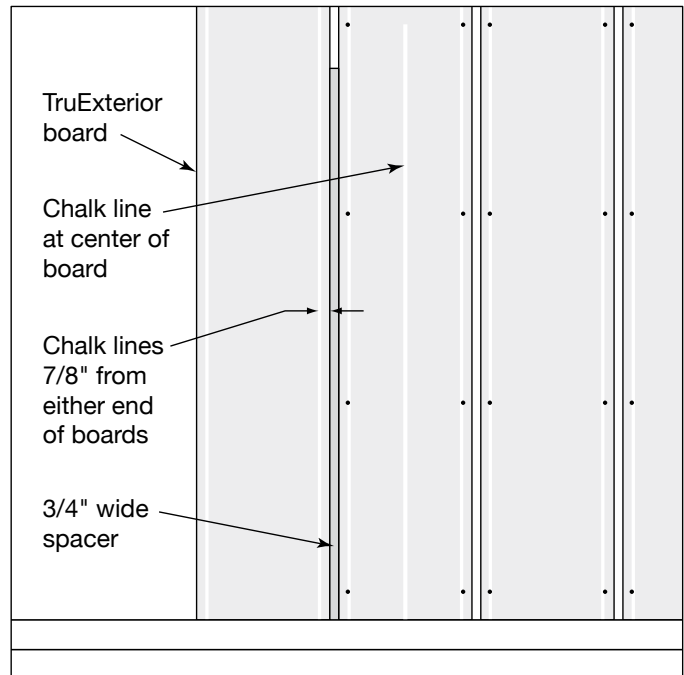

Fig. 5a
- Mark the center point of the board at the top and bottom (**Fig. 5a**).
- Using the plumb line on the wall, line up the middle of the board with the middle of the wall and secure it with fasteners (**Fig. 5a**).
- Use a 3/4" wide spacer between boards as you continue across the wall, checking for plumb along the way (**Fig. 5a**).
- Once the first board is installed, space boards 3/4" (**Fig. 5a**).
- Measure the board and chalk a line 7/8" from either edge to indicate the position of the battens (**Fig. 5a**).